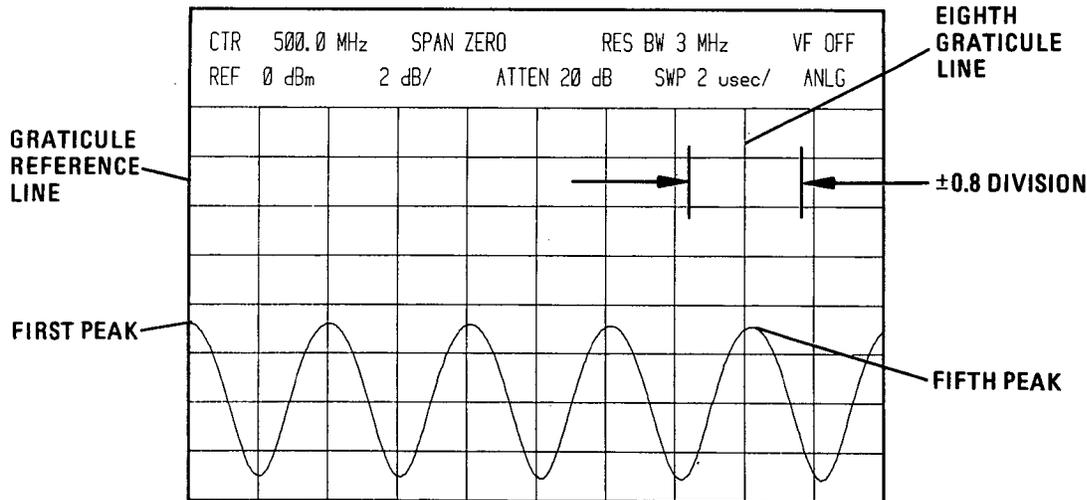

Figure 4-22. Sweep Time Accuracy, 2  $\mu$ SEC/DIV
9. Adjust TRIGGER LEVEL of analyzer to place a peak of sine wave on graticule reference line (left-most graticule line). Fifth peak from reference should be within  $\pm 0.8$  division of eighth graticule line. (See Figure 4-22.)